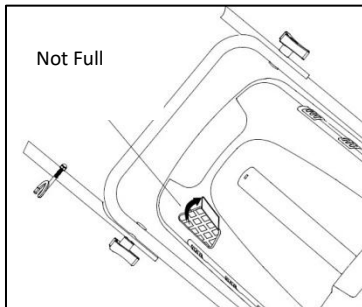

FIG 14B
- The level indicator inflates if the catcher is not full during the move. (Fig. 14B)